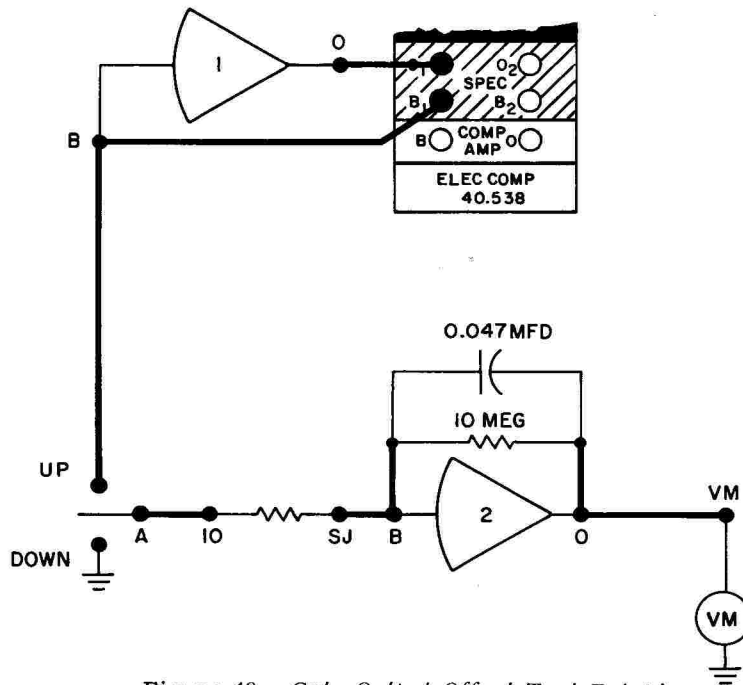

Figure 49. Gate Output Offset Test Patching
(1) Gate Output Offset Test. To perform this test, patch the circuit shown in Figure 49, and balance amplifier 1.